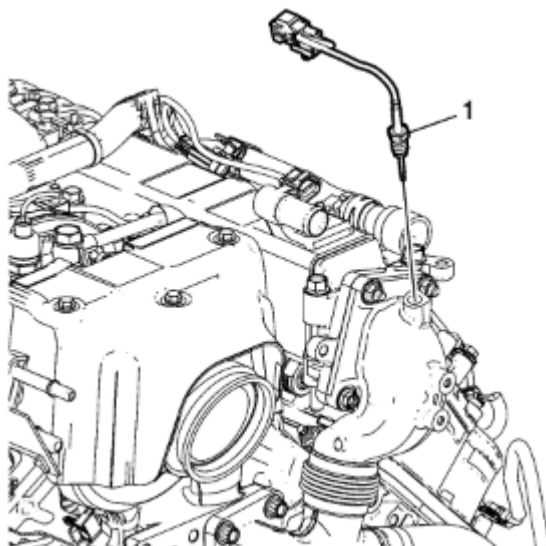

Fig. 127: EGR sensor installation
- c. Install and reconnect the exhaust gas recirculation (EGR) sensor as shown in figure 127. Torque the sensor to 32 ft-lb.